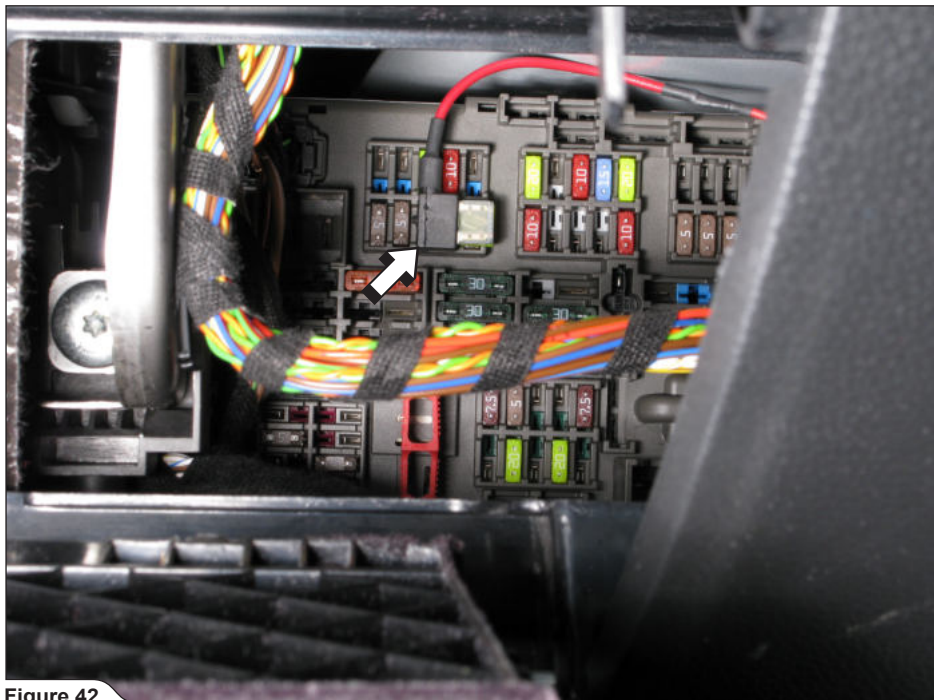

Figure 42
28. **For fuse box powered Wireless only:** insert the transmitter's fuse connector into the number 8 fuse spot in the power distribution box (**Figure 42**).